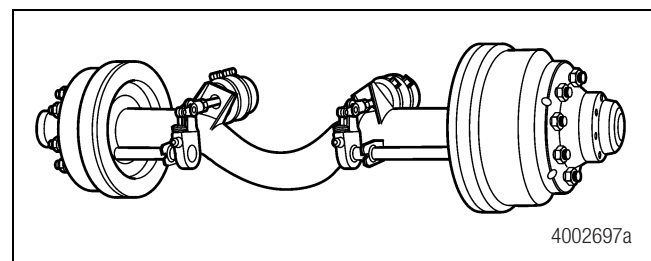

Figure 2.3
- Drop center beams, such as the TQD and TRD models. Figure 2.3.